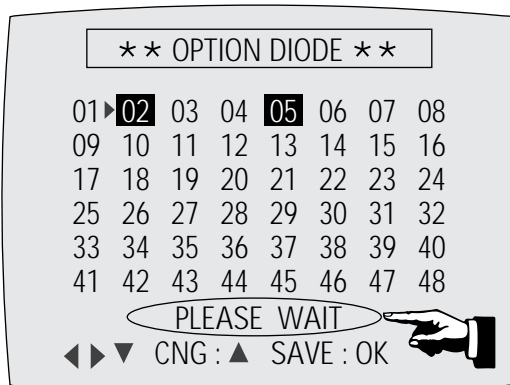

Fig. 2-6 (VCR)
- 5) Press the "OK (VCR)", "MENU (VCP)" button of remote control again to store the option number. ("PLEASE WAIT" is displayed for a second as shown Fig. 2-6, 2-7 and this setting is completed.)